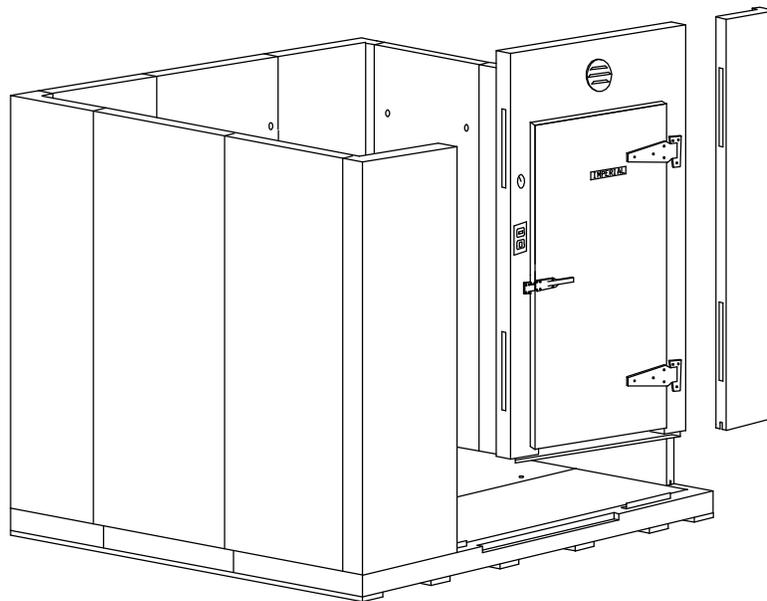

Figure 7 - Completing Wall Panels Installation
4. The last wall panel to be installed should be the most accessible corner panel (see figure 7).